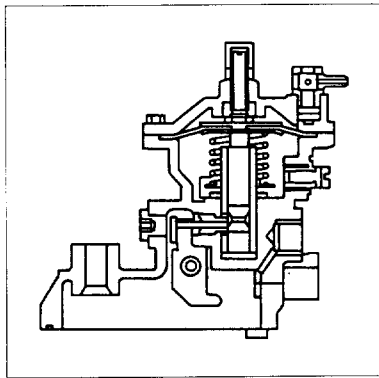

Fig.9-33
- ① Screw type is used so that adjustment can be performed from outside. (Fig.9-33)